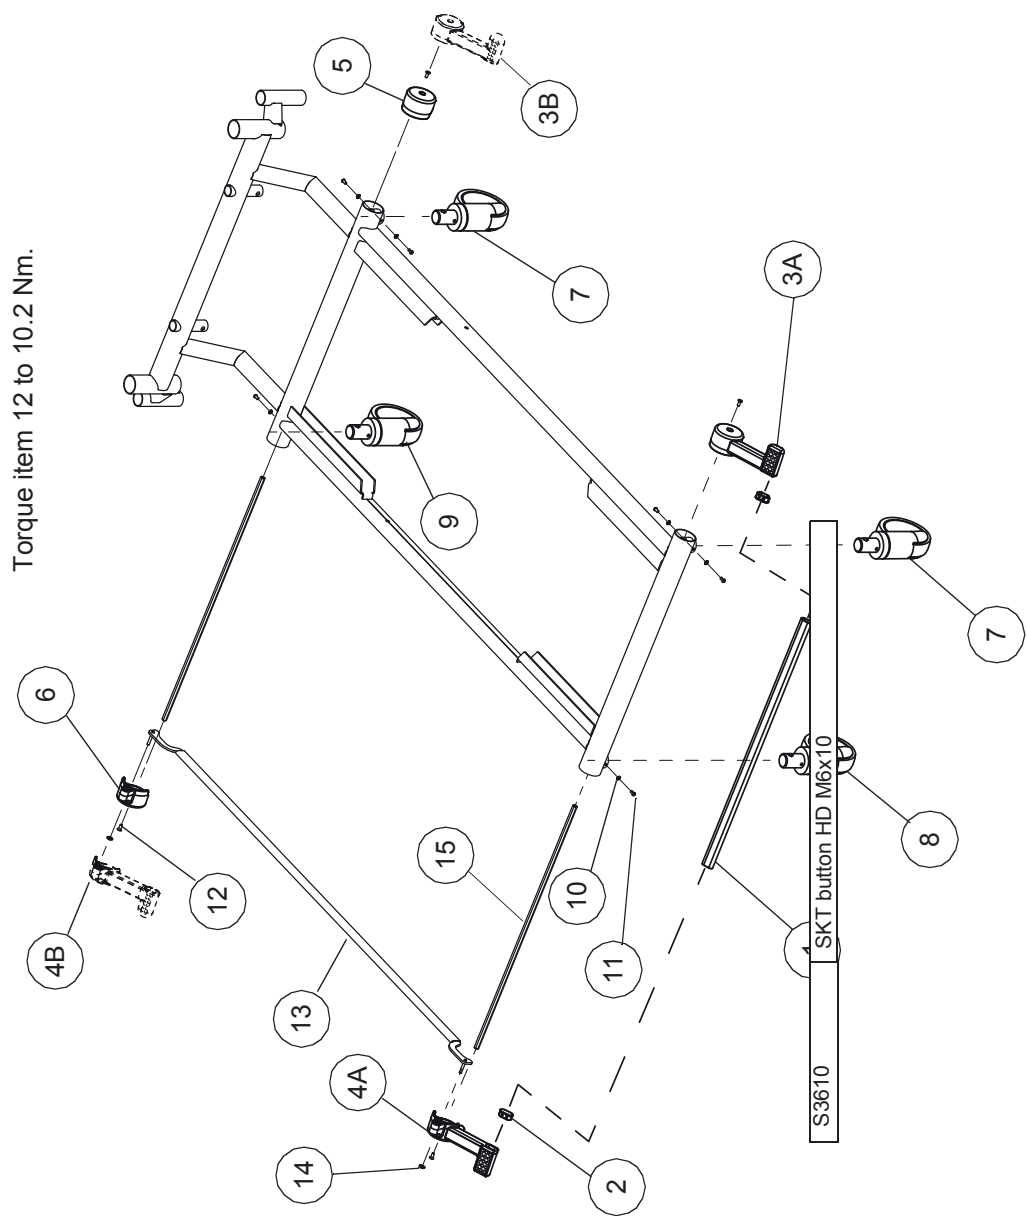

Figure 5: Brake and Castor Module
Reference is made throughout this section to Figure 5 on page 35 and Table 3 on page 37.
- 7.1.2 On the right hand side of the bed only: carefully remove and discard the capped starlock (Fig 5, Item 14) to release the brake link fabrication (Fig 5, Item 13) from the brake pedal (Fig 5, Item 4A).
- 7.1.3 Remove the socket head screw (Fig 5, Item 12) and pull the brake pedal (Fig 5, Item 3A) or (Fig 5, Item 4A) off the brake bar (Fig 5, Item 15). Remove the brake bow tube (Fig 5, Item 1) if fitted.
- 7.2.1 Position the brake pedal (Fig 5, Item 3A) or (Fig 5, Item 4A) on the brake bar (Fig 5, Item 15). Ensure the correct replacement pedal is fitted (i.e. left or right hand) and that the pedal end points down. Install the brake bow tube (Fig 5, Item 1) if fitted.
- 7.2.2 Fit the socket screw (Fig 5, Item 12) to secure the pedal. Attach the brake link fabrication (Fig 5, Item 13) to the pedal and secure it with a new capped starlock (Fig 5, Item 14).
- 8.1.2 On the right hand side of the bed remove the socket head screw (Fig 5, Item 12) from the brake pedal (Fig 5, Item 3A)/(Fig 5, Item 4A) or brake link moulding (Fig 5, Item 5)/(Fig 5, Item 6) above the faulty castor. Pull the brake pedal or brake link moulding off the brake bar (Fig 5, Item 15) with the link fabrication attached.
- 8.1.6 Note the orientation of the castor. Remove two button head socket screws (Fig 5, Item 11) and two Nord-Lock washers (Fig 5, Item 10) to release the castor from the base fabrication.
- 8.2.2 Install the castor (Fig 5, Item 7), (Fig 5, Item 8) or (Fig 5, Item 9) into the mounting tube in the base fabrication. Make sure it is orientated in the same direction as the previously removed castor.
- 8.2.3 Secure the castor with two Nord-Lock washers (Fig 5, Item 10) and button head socket screws (Fig 5, Item 11). Remove the blocks or stands and lower the bed to the floor.
- 8.2.4 Push the brake bar (Fig 5, Item 15) back through the base fabrication from the other side so that it engages the operating cam on the new castor.
- 8.2.5 Refit the brake pedal (Fig 5, Item 3A)/(Fig 5, Item 4A) or brake link moulding (Fig 5, Item 5)/(Fig 5, Item 6) on both sides of the bed.
- 8.2.6 On the other side of the bed, slide the brake pedal or brake link moulding over the spigot on the brake link fabrication (Fig 5, Item 13) and brake bar (Fig 5, Item 15). Check that the brakes and steering operate correctly.